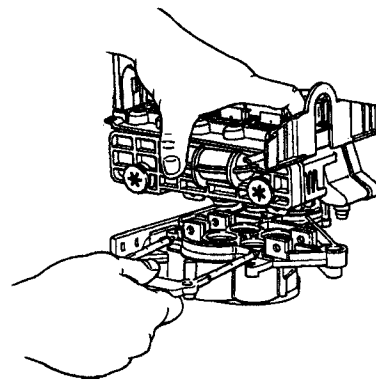

Figure 16
5. Apply downward had pressure on the valve and remove the locking bar, Figure 16.
6. Using a rocking motion, lift the valve from the tank adapter, Figure 16. If the o-ring seals come off with the valve, put them back into the tank adapter sockets. Lubricate the o-rings with silicone lubricant.